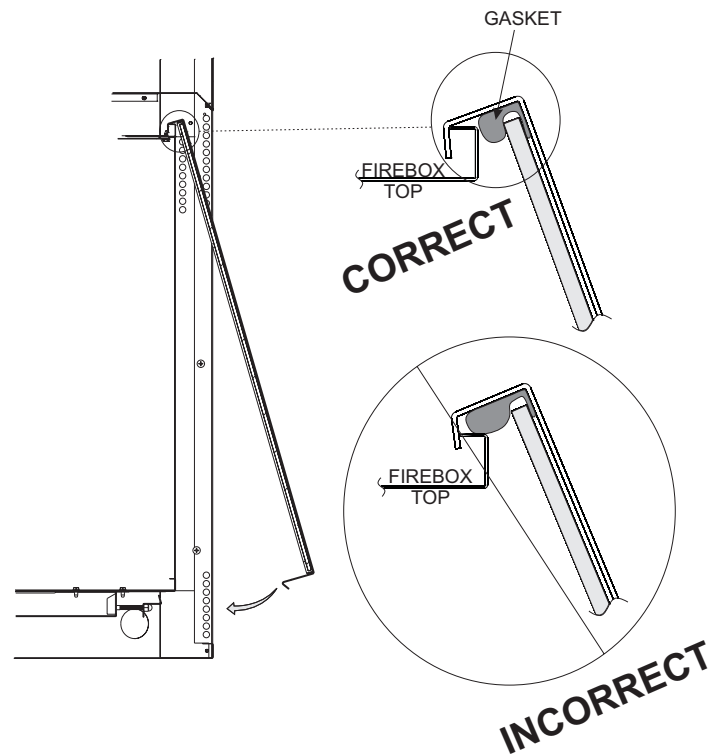

Figure 6
7. Reinstall glass front by hanging top of frame on top of the firebox, making sure gasket at top is positioned in front of firebox flange and not on top. **See Figure 6.**
1. When installing the Glass Door assembly, make sure that the door top flange is hooked over the firebox top flange as illustrated in the "Correct" view in Figure 6.
Important: Do not allow the gasket across the top of the door to roll up on top of the firebox flange as shown in "Incorrect" view in Figure 6.